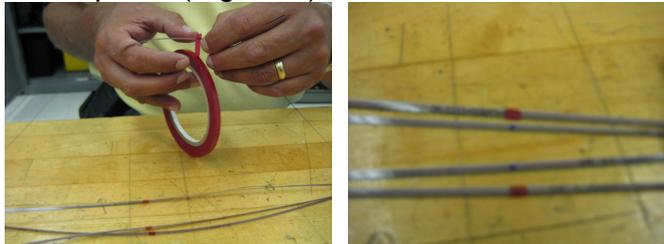

Figure 8 – Mark and tape the ribbons at required breakout length.
5.1 Mark the AccuRibbons® at the location for removing the matrix material. Place a piece of red tape at the location to prevent the AccuRibbons® from splitting further than required (Figure 8).